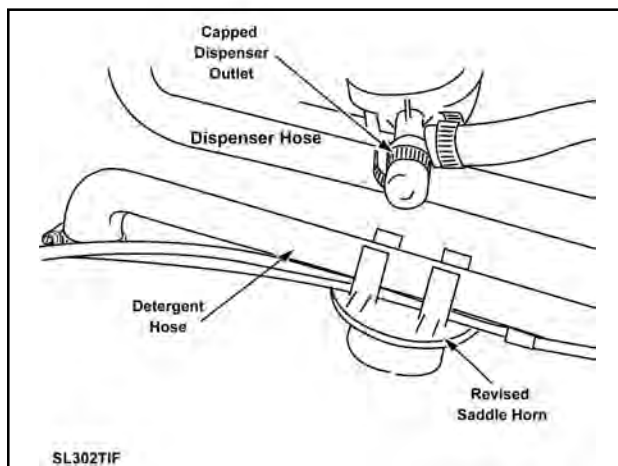

Figure 8-12
6. The detergent hose turns 90 degrees toward the front of the washer and passes through the saddle horn on the top of the outer tub. Unsnap the hose from the saddle horn. *(See Figure 8-12)*